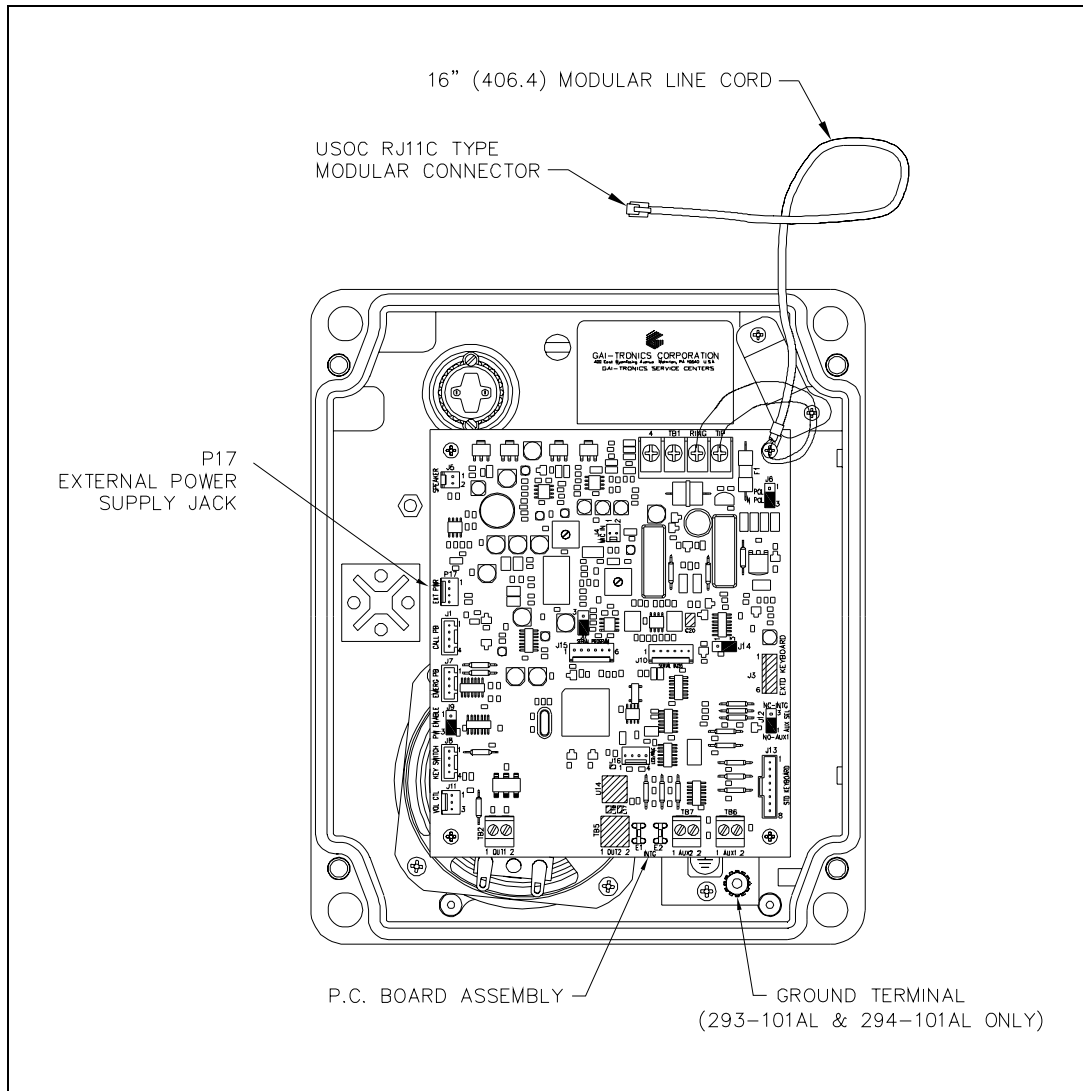

Figure 1. PCBA Connections for Model 293-101, 293-101AL, and 294-101AL
1. Align the holes in the four corners of the new PCBA with the standoffs in the telephone, maintaining proper orientation. See Figure 1.